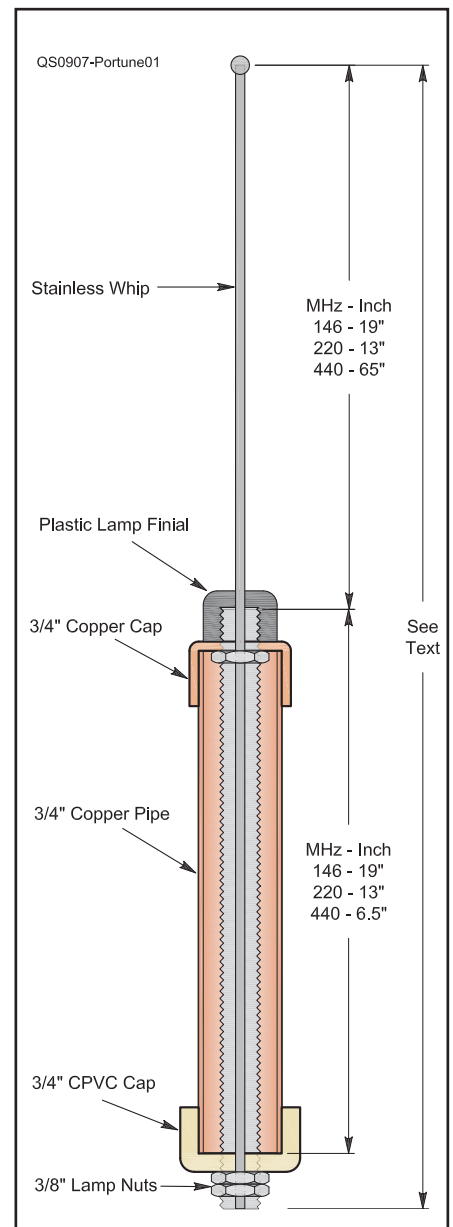

Figure 1 — Dimensioned drawing of coaxial dipole for three bands.
here made from a threaded table lamp tube, the lower part of the whip becomes the center conductor of a short length of rigid coax feeding the center of the antenna. Now connection to normal coax is easily made below the antenna. To form the rigid coax section, you'll need to insulate the center conductor (lower part of the stainless whip) from the lamp tubing with some 1/4 inch inside diameter (ID) polyethylene tubing. Hardware stores normally carry it. This short length of rigid coax formed in this way isn't precisely 50 Ω characteristic impedance, but the difference is totally insignificant. The drawing in Figure 1 shows the details.